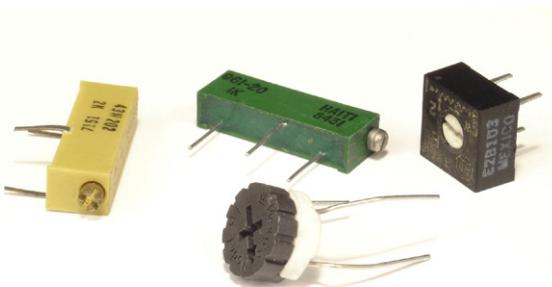

FIGURE 5.2 Trimmer potentiometers, or simply “trimmers,” come in many package types suitable for use in a breadboard.
Step 3. In this step, you will use a variable resistor, also called a potentiometer, or “pot,” to change the voltage applied to a pin on a transmitter XBee module. We often call these small variable resistors “trimmers,” or “trim pots” because electronic designs include them to slightly adjust, or trim, a voltage. Figure 5.2 shows several types of trimmers suitable for use in a solderless breadboard. In most cases, the middle terminal connects to an internal wiper that moves across a fixed resistor that connects to the two end terminals. The resistance between the end terminals does not vary.